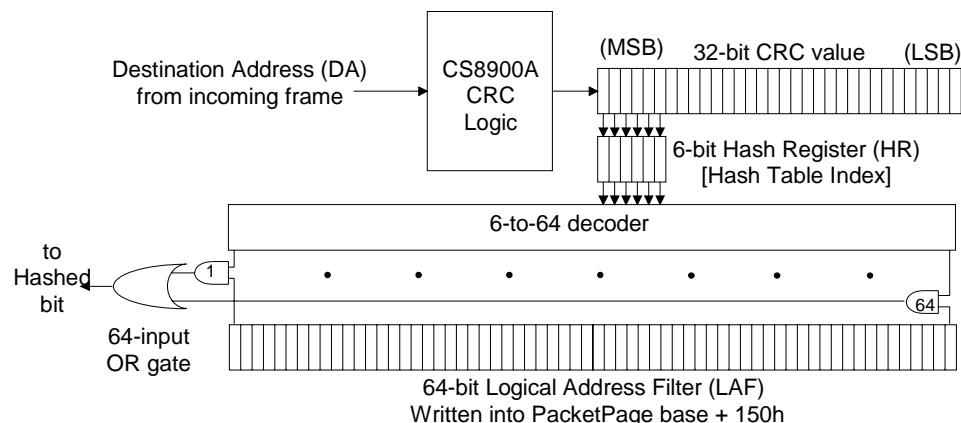

Figure 23. Hash Filter Operation
See Figure 23. The DA of the incoming frame is passed through the CRC logic, generating a 32-bit CRC value. The six most-significant bits of the CRC are latched into the 6-bit hash register (HR). The contents of the HR are passed through a 6-to-64-bit decoder, asserting one of the decoder's outputs. The asserted output is compared with a corresponding bit in the 64-bit Logical Address Filter, located at Packet-Page base + 0150h. If the decoder output and the Logical Address Filter bit match, the frame passes the hash filter and the Hashed bit (Register 4, RxEvent, Bit 9) is set. If the two do not match, the frame fails the filter and the Hashed bit is clear.